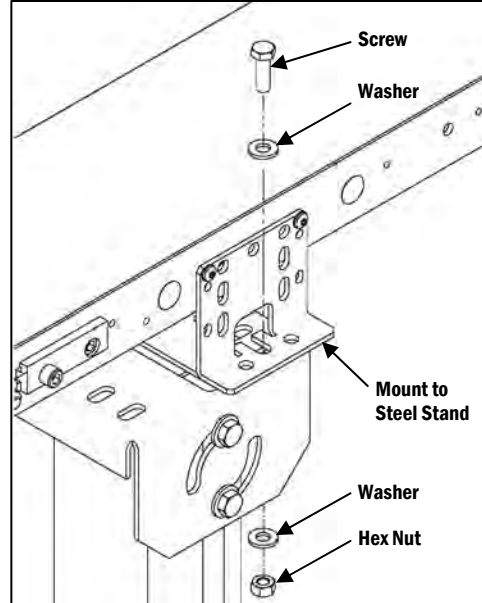

Figure 3
a. Using the fasteners provided, insert a 5/16-18 x 3/4" Hex Head Screw through a 5/16" Flat Washer and into the slot in the base of the mount (**Figure 3**).